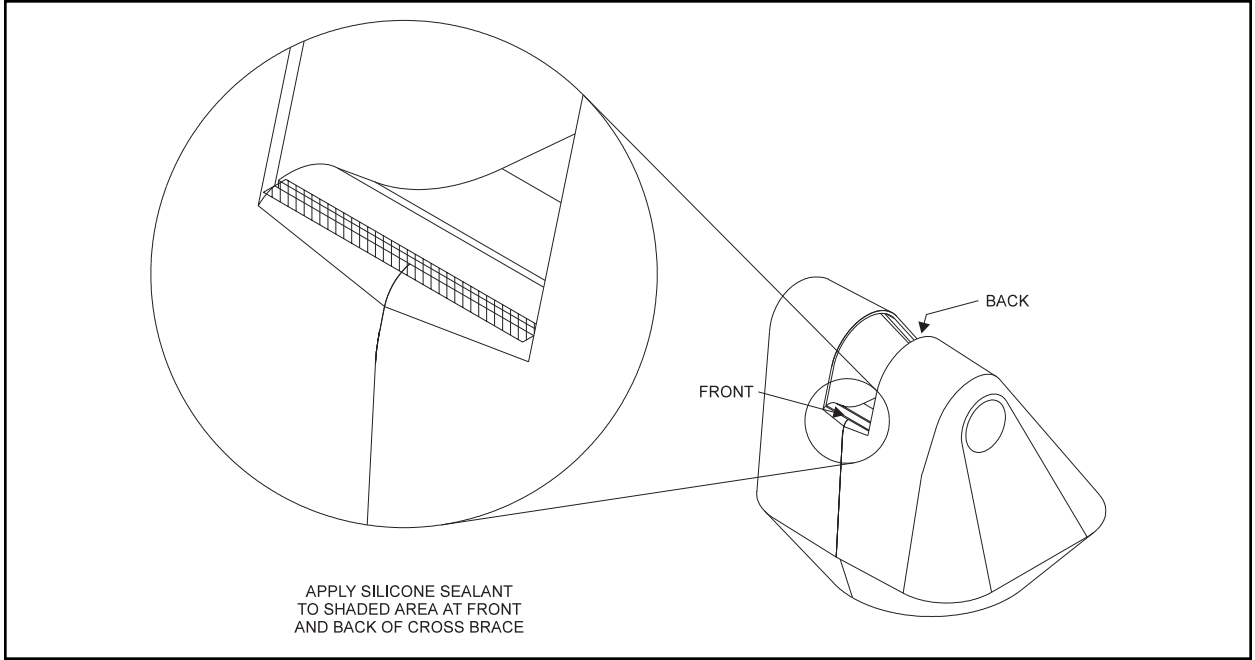

Figure 12. Silicone Application Location for Upright Unit
3. If the pan/tilt is installed in an upright position, refer to Figure 12 and apply RTV silicone (such as Bostik #9732 or equivalent) to the shaded areas of the covers.